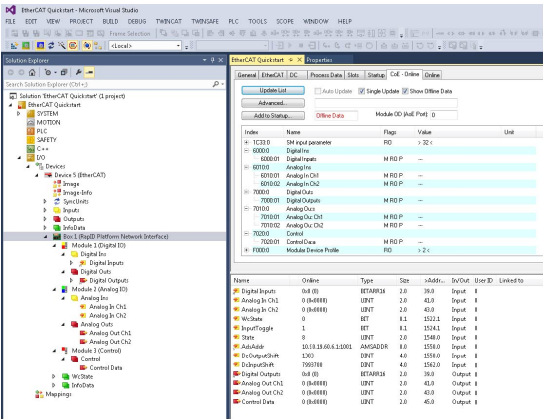

Figure 29. Expanded Indices Within CoE-Online Tab
2. Click the **Box 1 (RapID Platform Network Interface)** node and select the **CoE-Online** tab. Expand the digital, analog, and control data indices as shown in Figure 29.